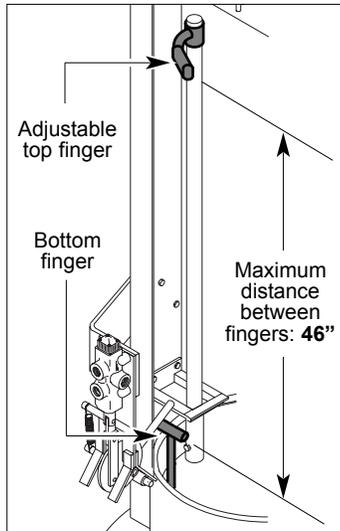

fig. 3
4. Ensure the distance between the adjustable top finger and the bottom finger of the reversing mechanism does not exceed 46" — *fig. 3*.
2. Clean and lubricate the drain hoses door inside the hopper — *fig. 3 in gray*.
2. Ensure the drain hoses door is free to work — *fig. 3 in gray*.